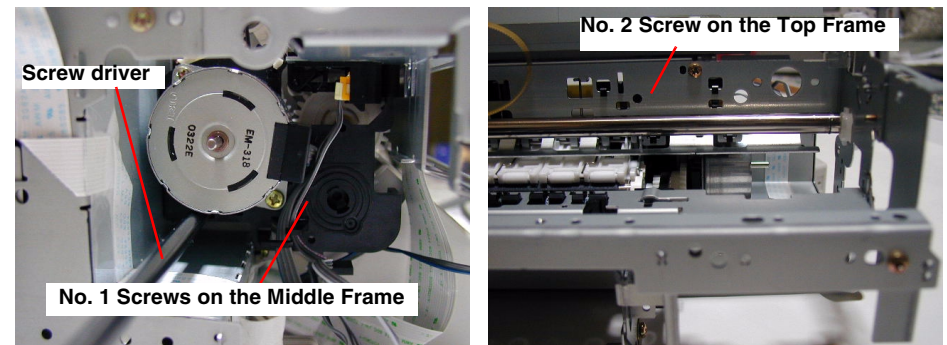

**Figure 4-22. Removing the Tension Spring 0.618**
- 8) Remove the Torsion Spring 0.618 between DE Lock Lever and the hook on the DE unit. Refer to Figure 4-22.